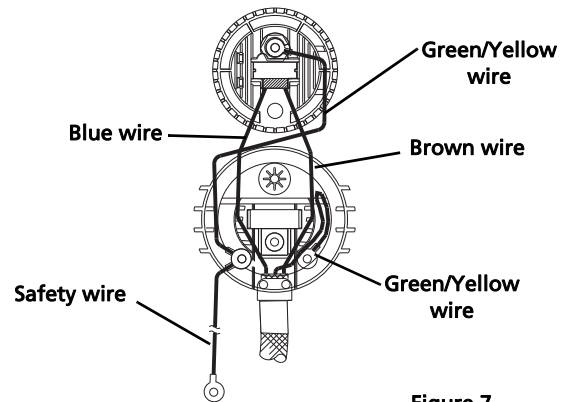

Figure 7
- 12: Lay the leads in the bottom half of the cable clamp (located in the housing socket casting [1]), making sure that the cable insulation jacket extends slightly past the screw holes in the housing socket casting. Then, route the wires as shown in Figure 7.
- 17: Before proceeding, check again to make sure that the wires are still positioned as indicated in Figure 7. Adjust if necessary.